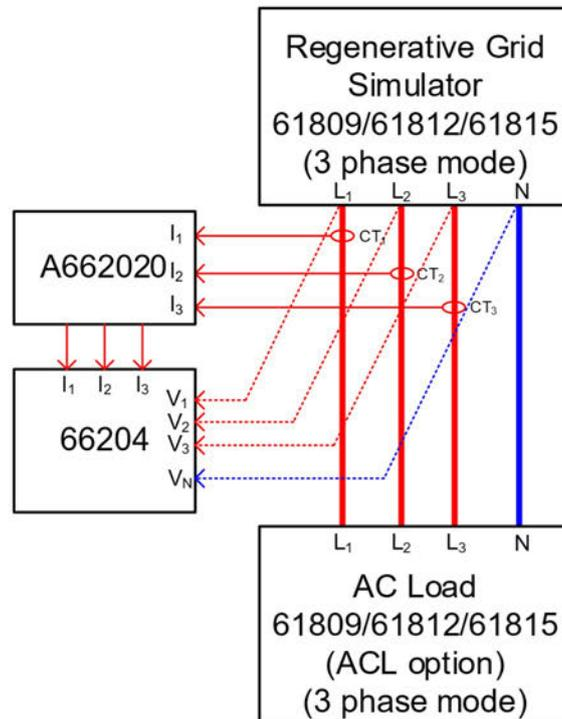

Figure 4-1
Connect the Regenerative Grid Simulator, AC Load, Power Analyzer, and Current Transducer as shown in Figure 4-1.
- A. Connect the Regenerative Grid Simulator, AC/DC Load, Power Analyzer, and Current Transducer as shown in Figure 4-1. Use the Power Analyzer to measure the AC Vac voltage.